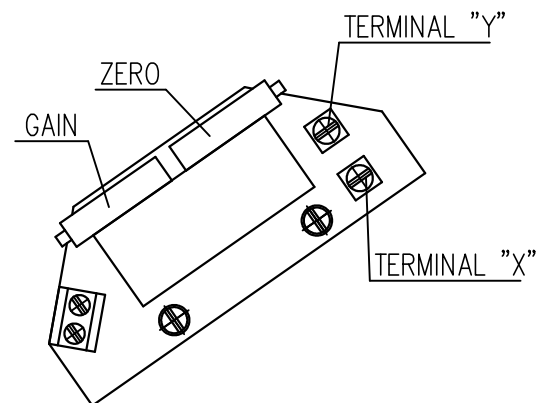

Fig.5
##### 4.4.1 EPV – the 2-wire version (Fig. 5)
- Adjust the resistive transmitter according to the previous chapter. The resistance is to be metered on the terminals X-Y (Fig. 5). The used transmitter resistance is 100 Ω.
- Turn the adjusting trimmer ZERO (Fig. 5) to adjust the output current signal rate measured on the terminals 81-82 to 4mA.
- Turn the adjusting trimmer GAIN (Fig. 5) to adjust the output current signal rate measured on the terminals 81-82 to 20mA